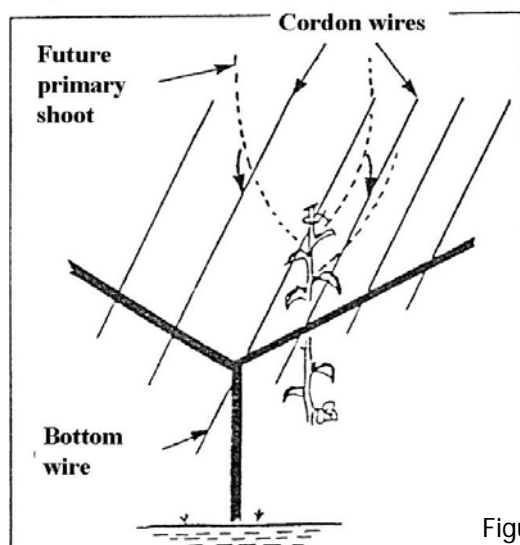

Figure 2: First topping of primary shoot (Future main stem)
9. Insert and stabilise poles in holes as indicated in diagram (Figure 2). Make sure that uprights are in straight lines and perfectly vertical
After planting, the scion is cut back to two buds. During the first season two or more shoots (canes) will develop. After the first winter the weaker shoots are removed and the strongest shoot is again cut back to two buds. Shoots developing from these buds are trained onto a line suspended from the cordon wires. During the season the weaker shoot is topped to stop further growth. The stronger shoot is allowed to grow up to the cordon wire where it is topped (Figure 2)